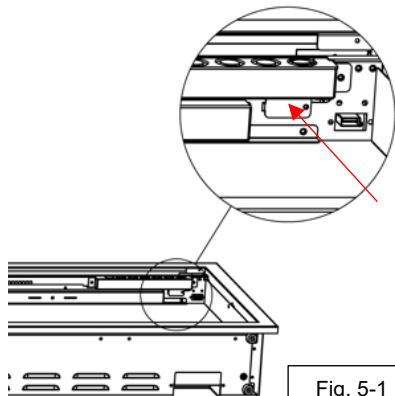

Fig. 5-1
- To access this micro switch, remove the single screw and pivot the access panel so that it can be temporarily removed (Fig. 5-1). Flip the switch to the "Off" position and reattach the access panel.